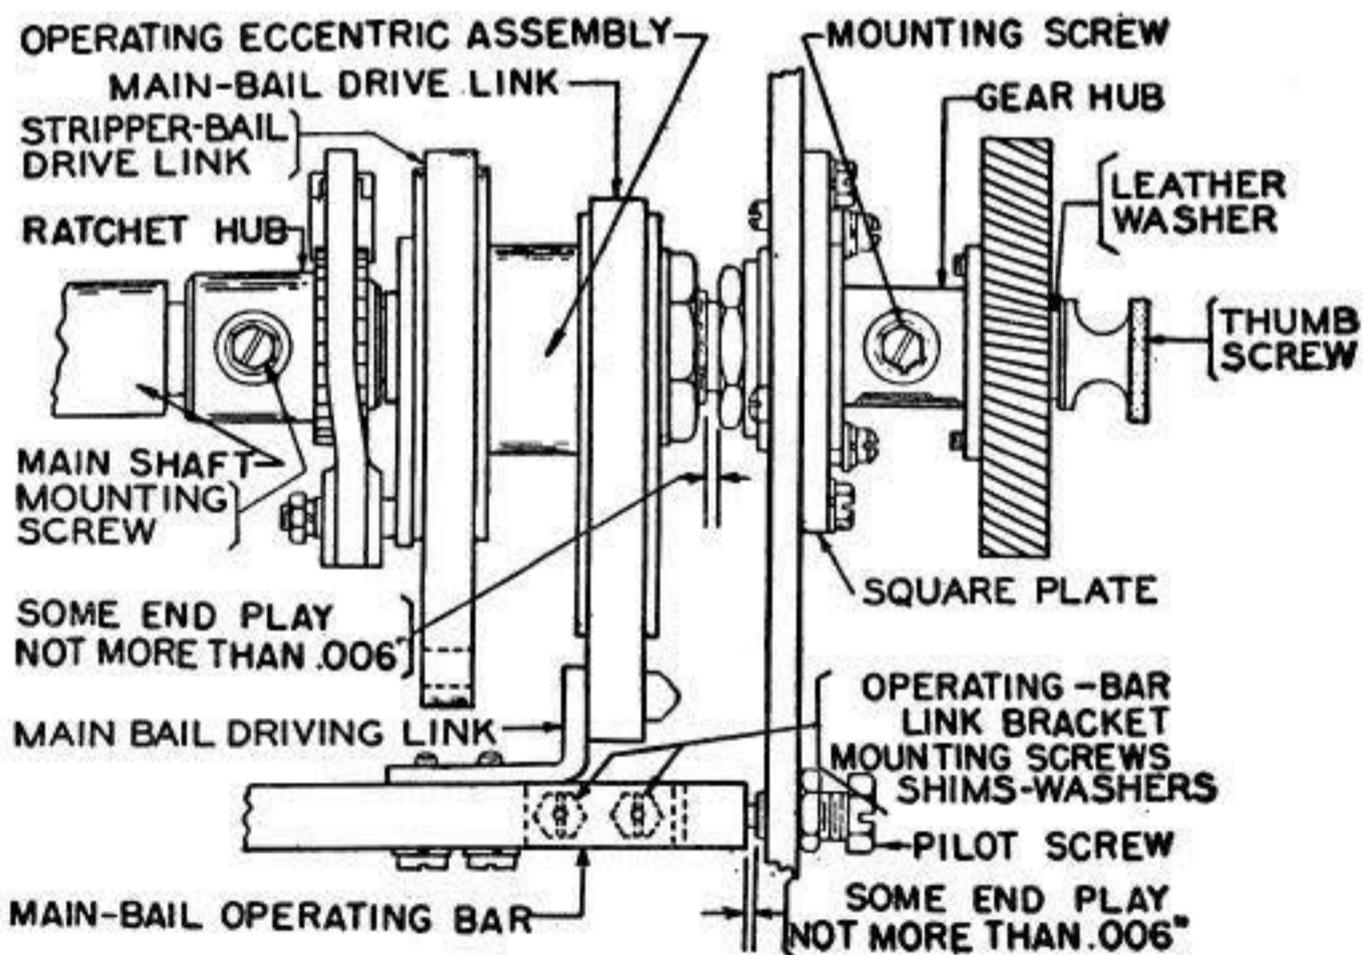

Fig. 1
3.09 **Operating-Eccentric Assembly** on the main shaft should have some endplay, not more than .006". **Fig 1**
3.10 **Mainbail Operating-Bar:** There should be some endplay, ← not more than .006" and there should be no bind between the mainbail drive-link and its associated driving-link. **Fig 1**